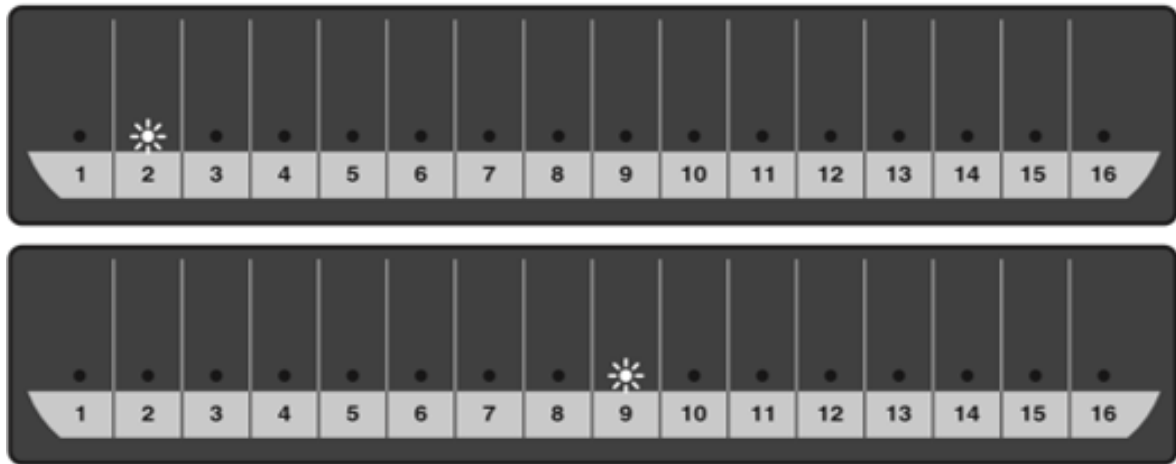

Figure 2
3. Channel LEDs will flash **WHITE** to indicate firmware version - once for major number, then once for minor number (e.g. LED #2, then LED #9 = V2.9) (**Figure 2**).